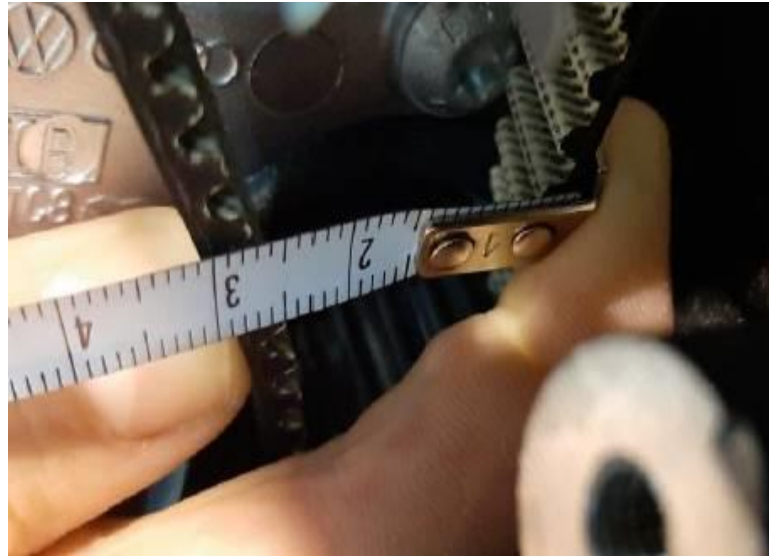

Figure 3. Checking the toothed belt tension.
- 5) Check the toothed belt tension (Figure 3) by pressing the toothed belt together centrally between the two toothed belt sprockets. The measured distance of the backs of the toothed belt should be between 28mm and 30mm. A measuring caliper can also be used for toothed belt compression and measurement.